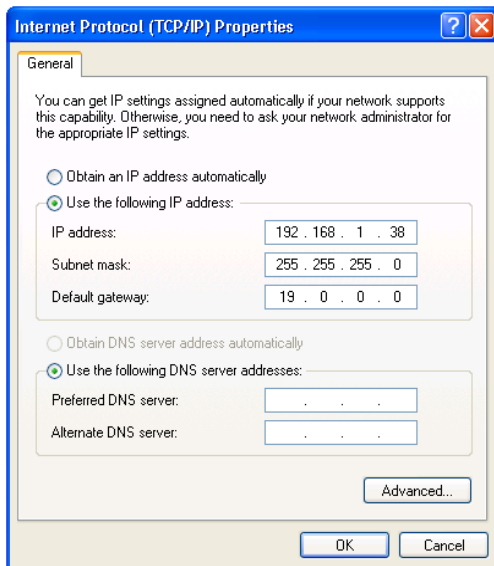

Figure 6: Internet Protocol (TCP/IP) Properties Window
6. Select **Use the following IP address**, and fill in the details as shown in Figure 6. You can use any IP address in the range 192.168.1.1 to 192.168.1.255 (excluding 192.168.1.39) that is provided by your IT department.